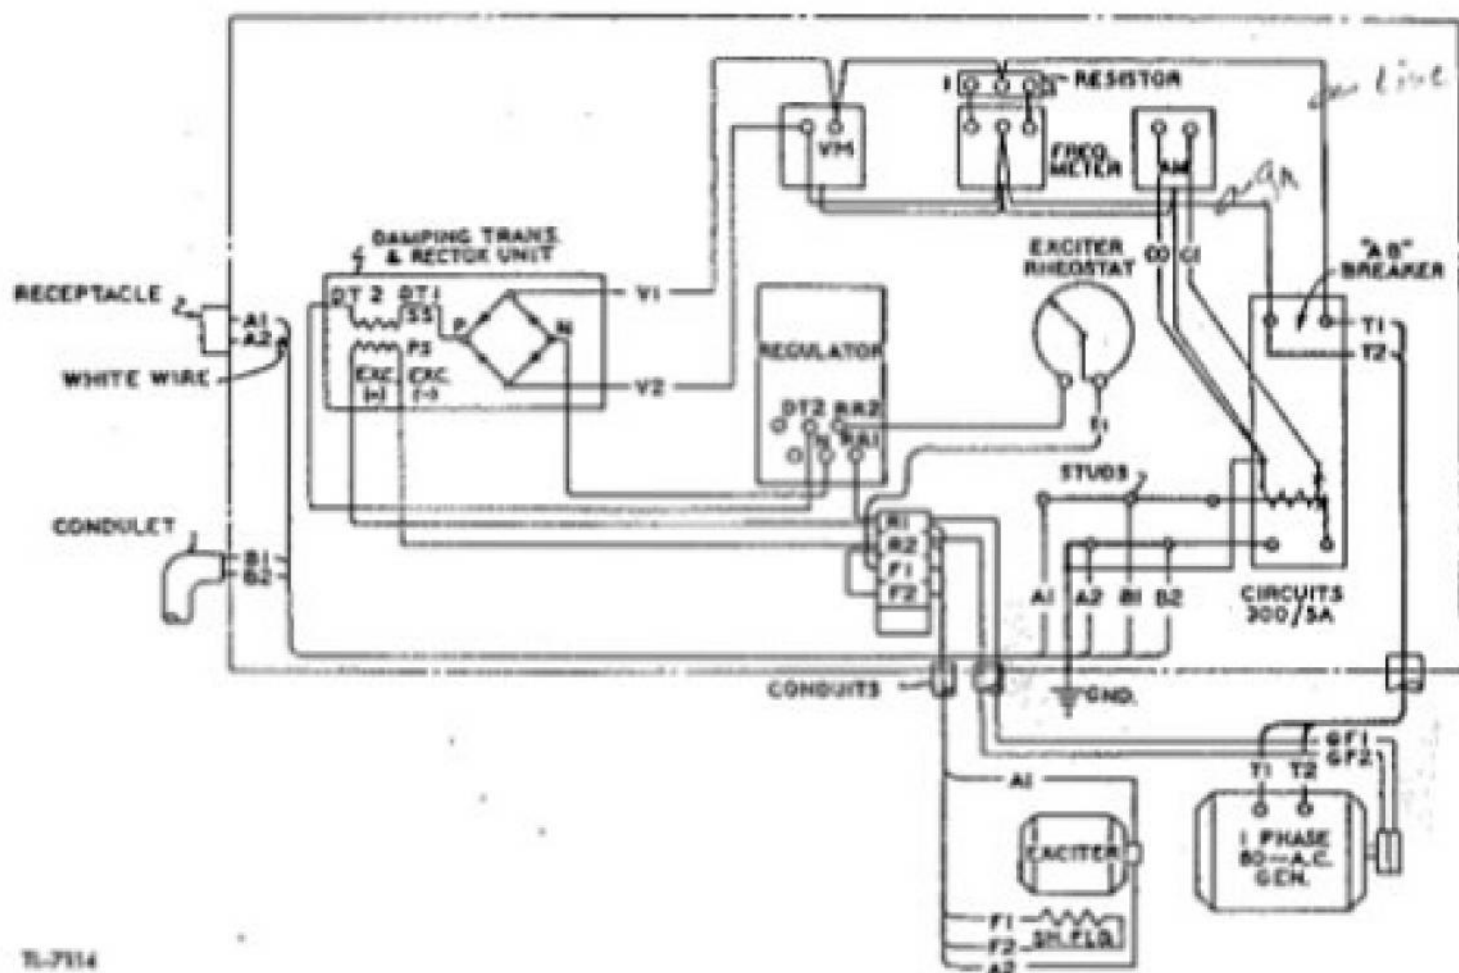

Figure 19. Wiring diagram of alternator (generator) connections. Rear view of panel is shown.
h. All leads from the generator are brought to the control panel, and are inclosed in flexible armored conduits. (See fig. 19.)